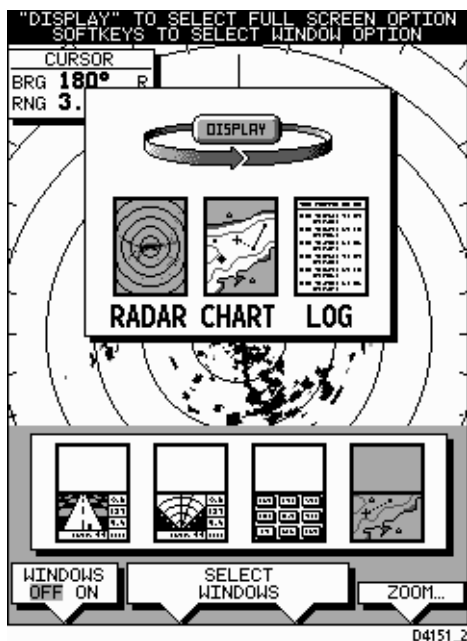

Figure 2-5: Using the DISPLAY Key
- To change the mode, press the **DISPLAY** key to show the **DISPLAY** pop-up, then press again to cycle through the modes available, shown in the *Figure 2-5*.